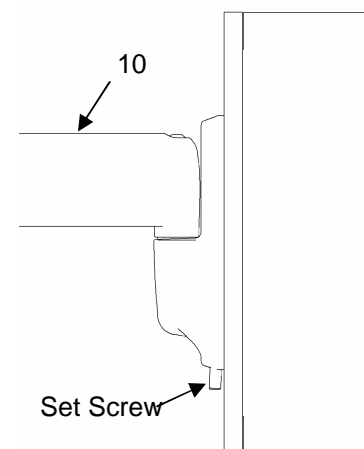

Figure 5. Tighten Set Screw
2. Using 5/32" hex wrench (170), secure mount to wall bracket by tightening set screw (see Figure 5). Ensure set screw engages *back* side of bracket to properly secure mount.